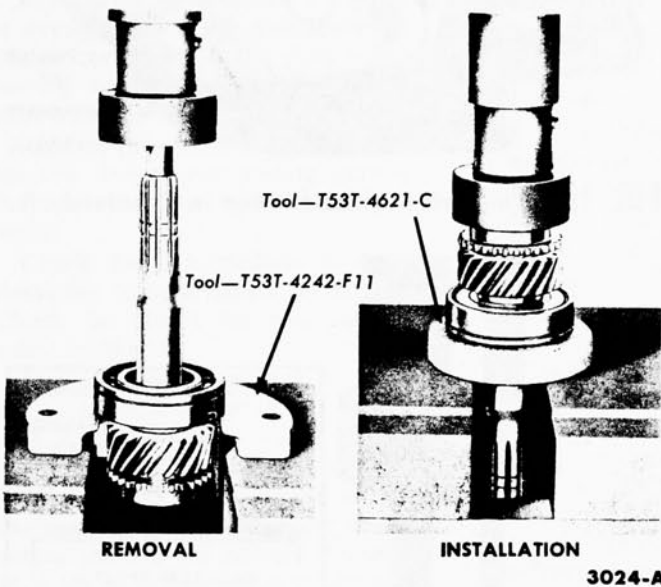

FIG. 7—Input Shaft Bearing Removal and Installation
15. If the input shaft bearing is to be replaced, use the tools shown in Fig. 7. If a baffle is used with this bearing, the baffle spins with the shaft. It must be installed with the dished side away from the bearing so that the baffle does not rub the outer race of the bearing.